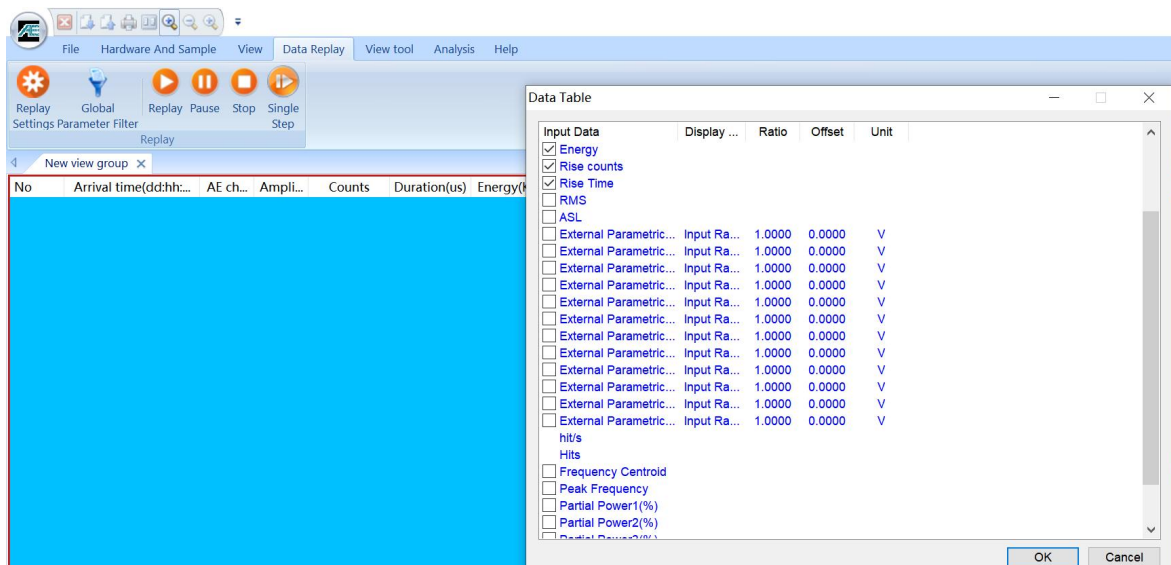

Fig. 6-38 Default parameters and optional parameters interface
- 2) **External parameter setting:** the display name of the external parameter can be modified in the [More Parameters] window. Double click the corresponding position of "display name" column of the external parameters and enter the display name. The reference linear relationship is:  $Y = KX + B$ , where X is the input voltage, Y is the display value. The ratio [K] is the proportion of the external parameter display value and its actual input value; the offset [B] is the offset value, similar to zero point calibration, that is, when there is no voltage input for an external reference channel, the voltage display of the channel in the parameter table should be zero by adjusting [B]. In the actual acquisition process, it is necessary to calibrate the set coefficient K, that is to adjust the coefficient K by comparing the measured value of the external parameter system with the actual value until the measured value of the external parameter system is close to or consistent with the actual value. Refer to figure 6-38.